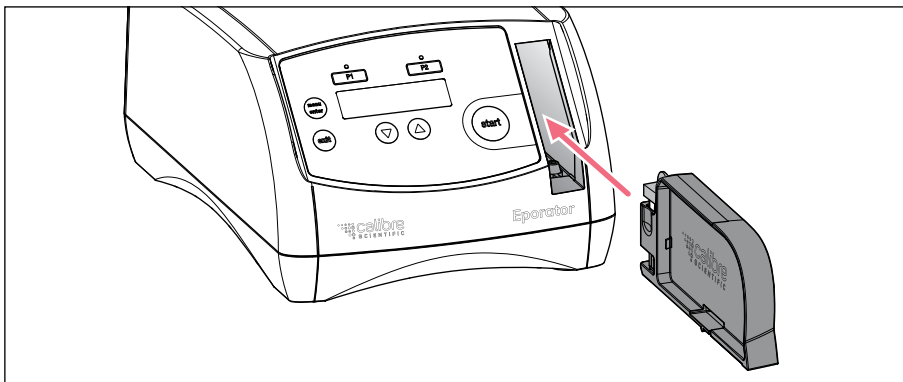

Fig. 5-4: Insert the cuvette carrier
7. Slide the carrier in the cuvette shaft of the Eporator until it engages (Fig. 5-4 on p. 16).